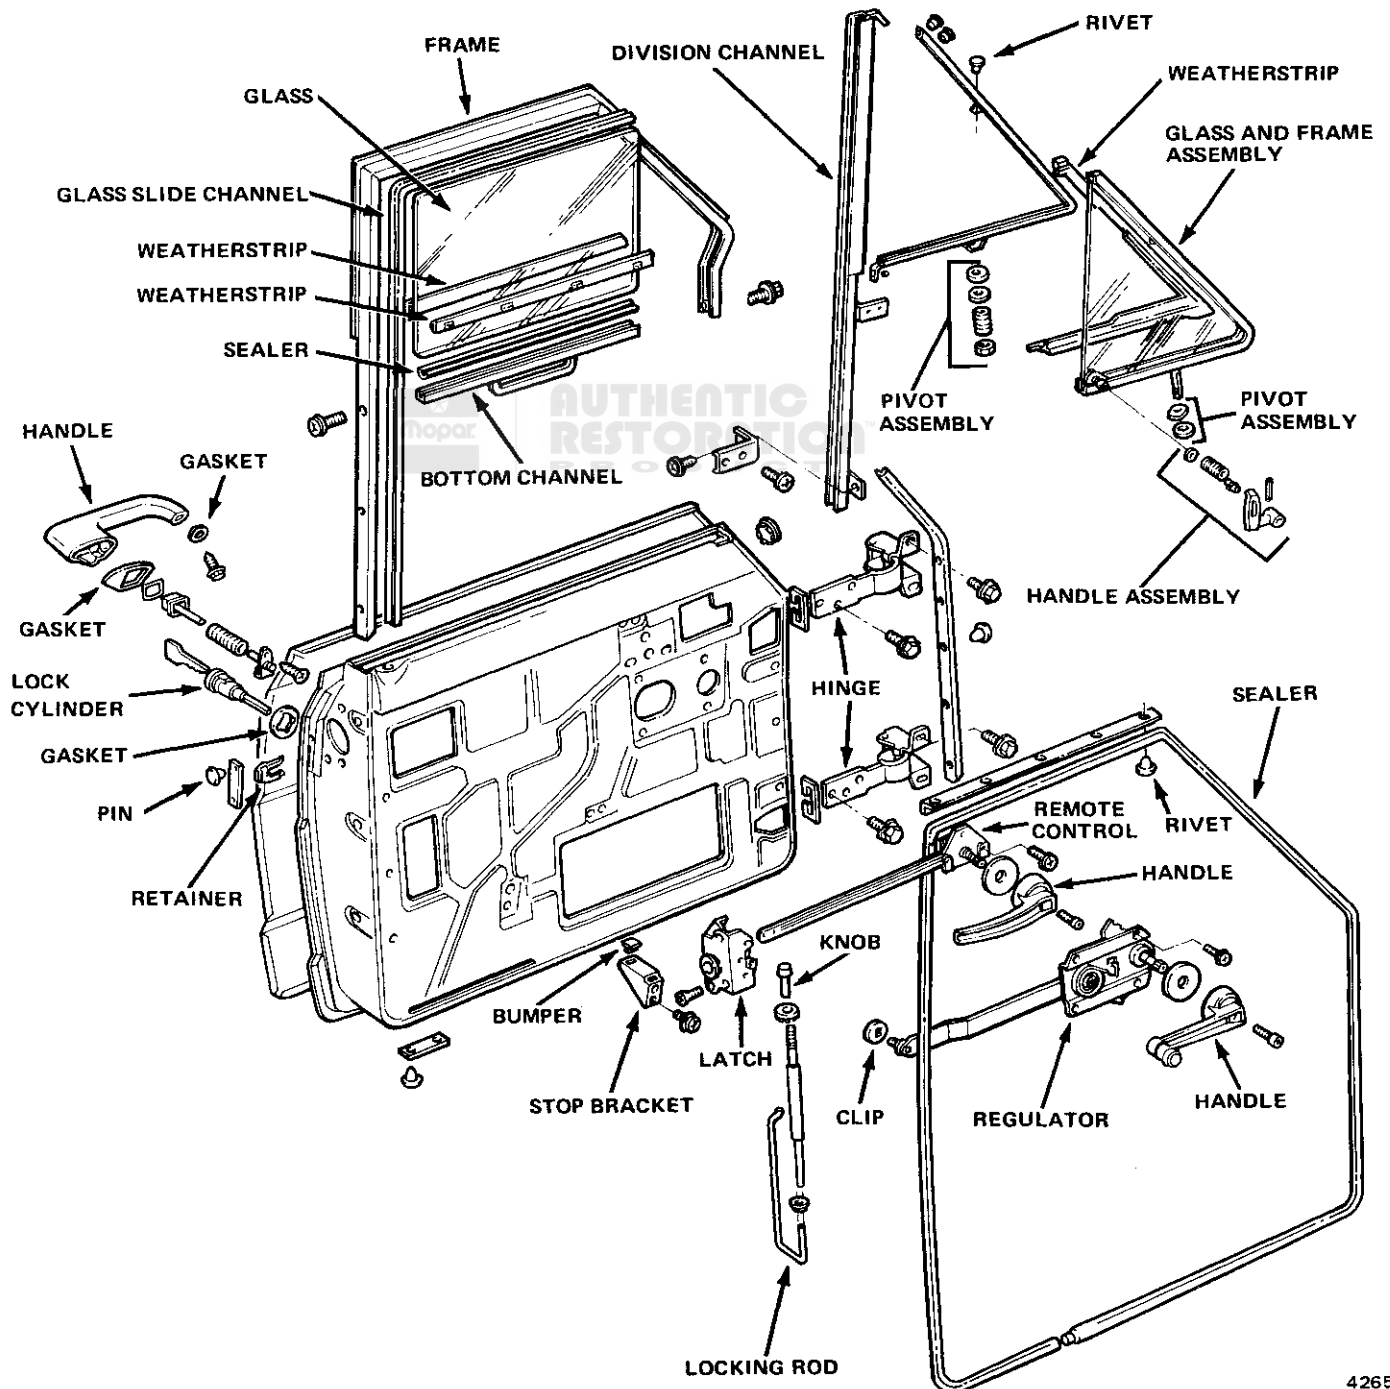

Fig. 3J-2 Front Door—Cherokee-Wagoneer-Truck Models
- (1) Remove door trim panel and water shield.
- (2) Remove glass stop bracket (fig. 3J-2).